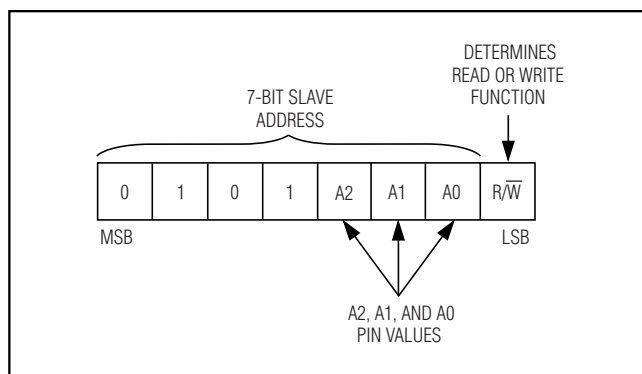

Figure 5. DS1881's Slave Address Byte
**Slave Address Byte:** Each slave on the I2C bus responds to a slave addressing byte sent immediately following a START condition. The slave address byte (Figure 5) contains the slave address in the most significant 7 bits and the R/W bit in the least significant bit.